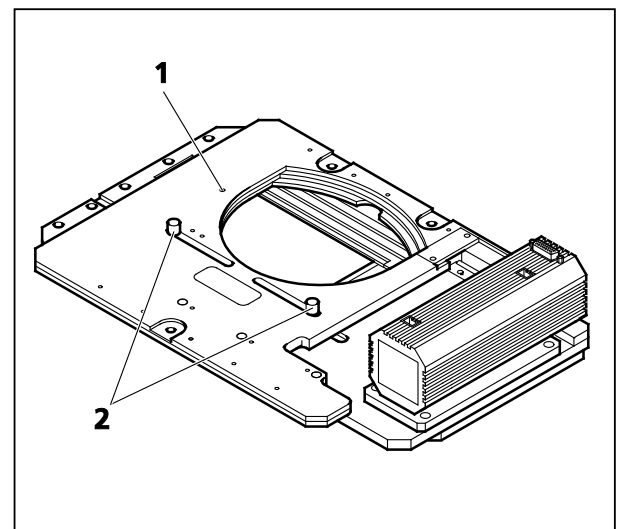

Fig. 23 Scanning stage 130x85 mot. P, CAN, bottom side
- After mounting the stage on the stand, the transport securing pin (Fig. 23/1) at the bottom of the stage must be unscrewed.
- To adjust the right-hand or left-hand mechanical stop in X direction, loosen the relevant stop screw (Fig. 23/2) at the bottom of the stage, move the stop as required and then retighten the screw.